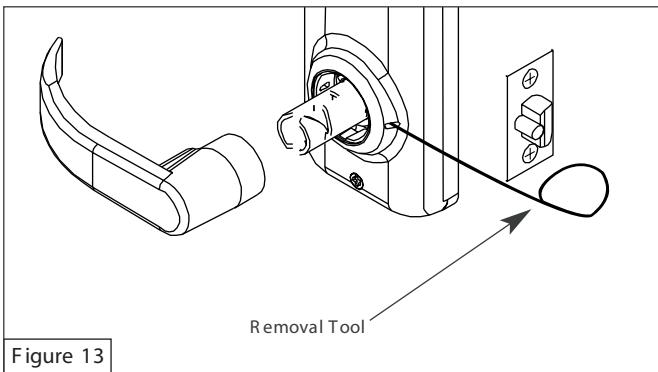

Figure 13
1. Insert lever removal tool in slot. (Fig.13)